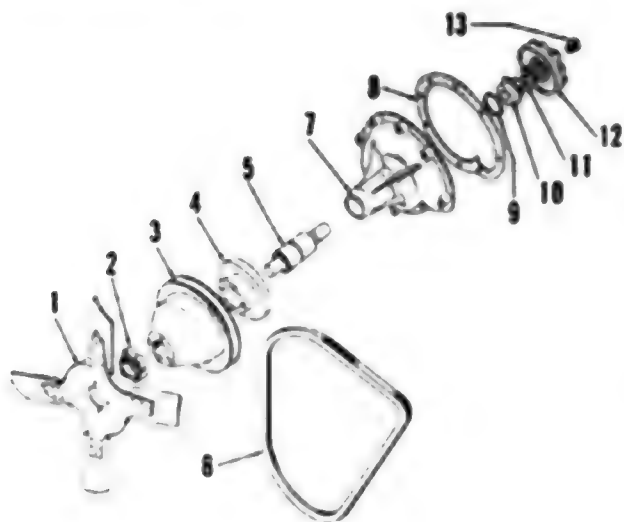

Fig. 51 - Exploded view of typical water pump assembly used on all models.
**66. R&R AND OVERHAUL.** To remove the water pump, first drain cooling system, then remove hood. Loosen alternator mounting bolts and remove the drive belt. Unbolt and remove fan (1—Fig. 51), spacer (2) and pulley (3). Remove cap screws securing pump body (7) to water pump carrier. Then, remove pump from tractor.